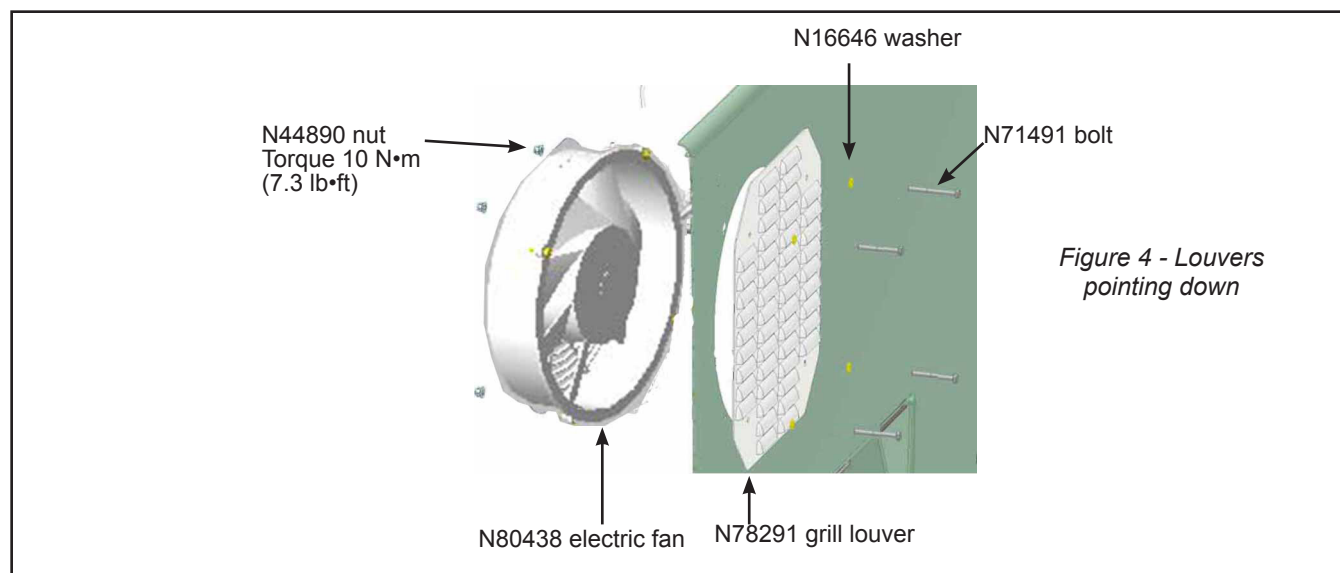

Figure 5 - Engine Fan Assembly
- 1.8. Install onto the engine door, the N78291 grill louvers pointing down on the outside, with the N80438 electric fan, on the inside with four N71491 bolts, four N16646 washers and four N44890 nuts. Do not fasten upper curb side nut. See Figure 5.
- 1.11. Fasten to the specified torque in Figure 5.